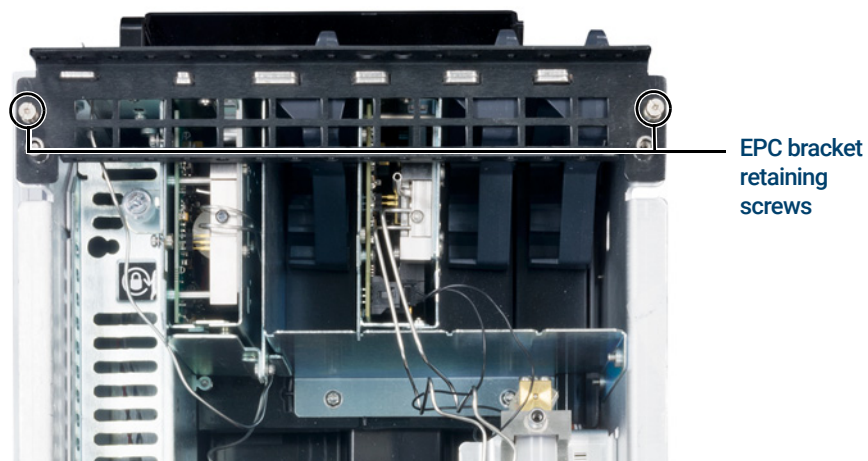

Figure 7. EPC bracket and retaining screws
- g Use a flat-blade screwdriver to completely loosen the two captive screws securing the EPC bracket to the GC, and remove the bracket. See **Figure 7**.